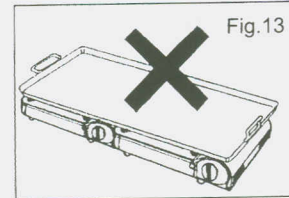

Fig.13
2. Do not parallel using. (Fig. 13)